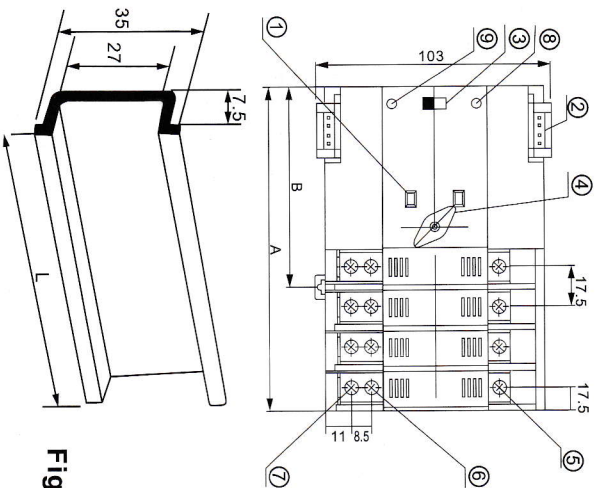
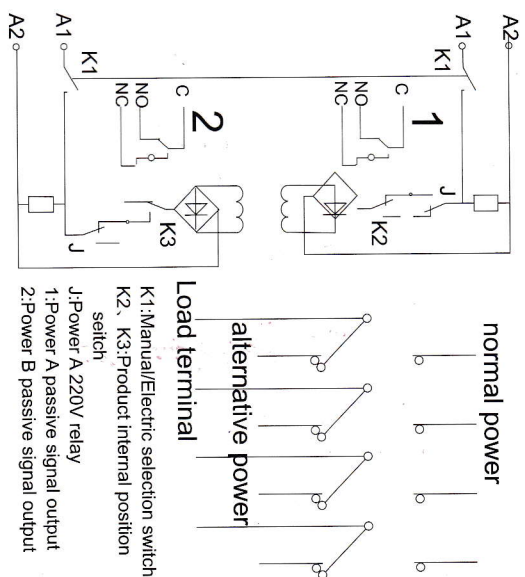

Fig. 1 Contour dimensions and installation dimensions of 63A and 100A
Fig. 2 Internal wiring diagram
W2R can be vertically installed in control cabinet or power distribution cabinet. Ensure the installation distance S as required in fig. 1...
8.3 The nameplate of the product can be seen from the front. Please contact us if you fail to install in the specified direction due to wiring and other reasons. The safety distance S1, S2 should not be less than what's specified in Fig. 1 and Fig. 2. (More information of side picture)